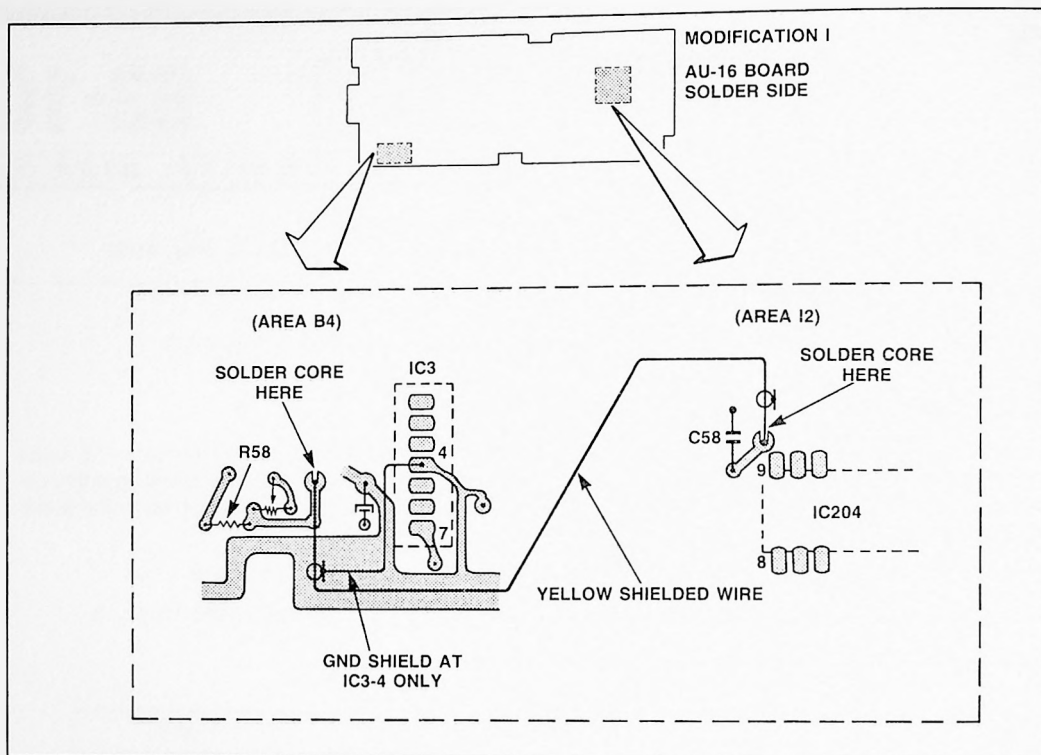

Figure 1
**MODIFICATION PROCEDURES****Modification I****AU-16 Board (See Figure 1.)**